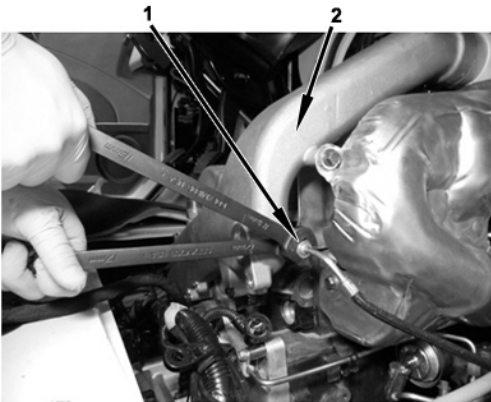

Figure 38 Coolant Manifold
15. Install hydrocarbon injector (HCl) coolant supply tube nut (1) to the coolant manifold (2) and torque to 18 lb-ft (24 N•m) (Figure 38).